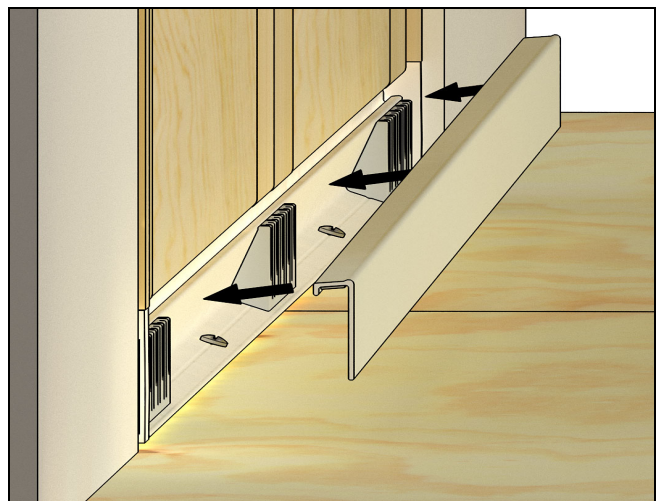

Figure 30
4. Press down and fully seat the sill liner. See Figure 30.